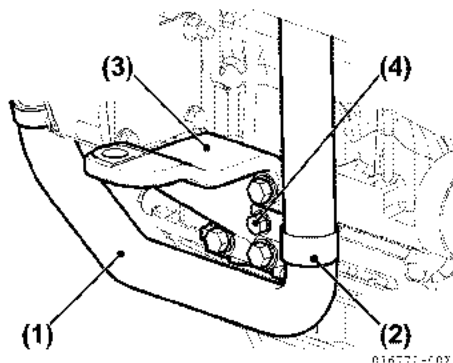

**Figure 5-176**
- For 3JH5E, install the seawater pipes with the hose clips (**Figure 5-176**).